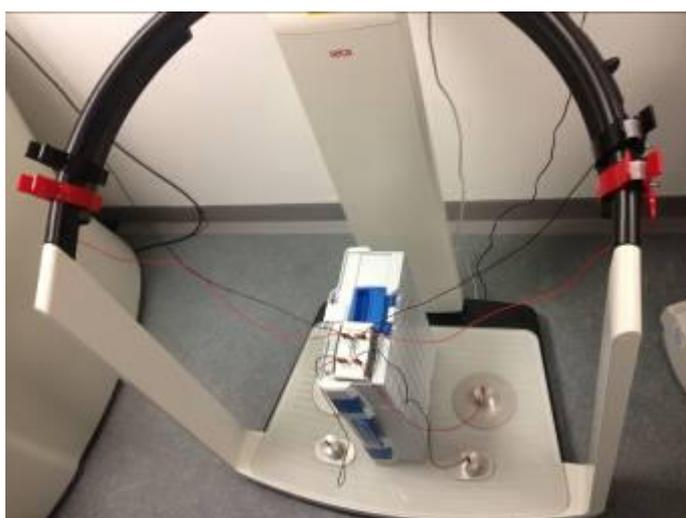

Figure 6.
- i. Now take the dangling opposite end of the red leads for the hands that you previously connected to the red clips and connect the dangling free end to the corresponding coloured positions at the person’s head-end of the image on the Reference Unit (figure 6).
- j. Do the same for the black leads (figure 6).
11. Set-up of the test kit is now complete. Check that your set up matches that shown in figure 6.